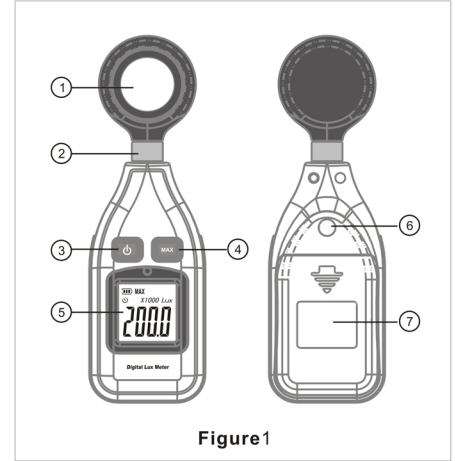

Figure 1
C. Parts description (Figure 1)